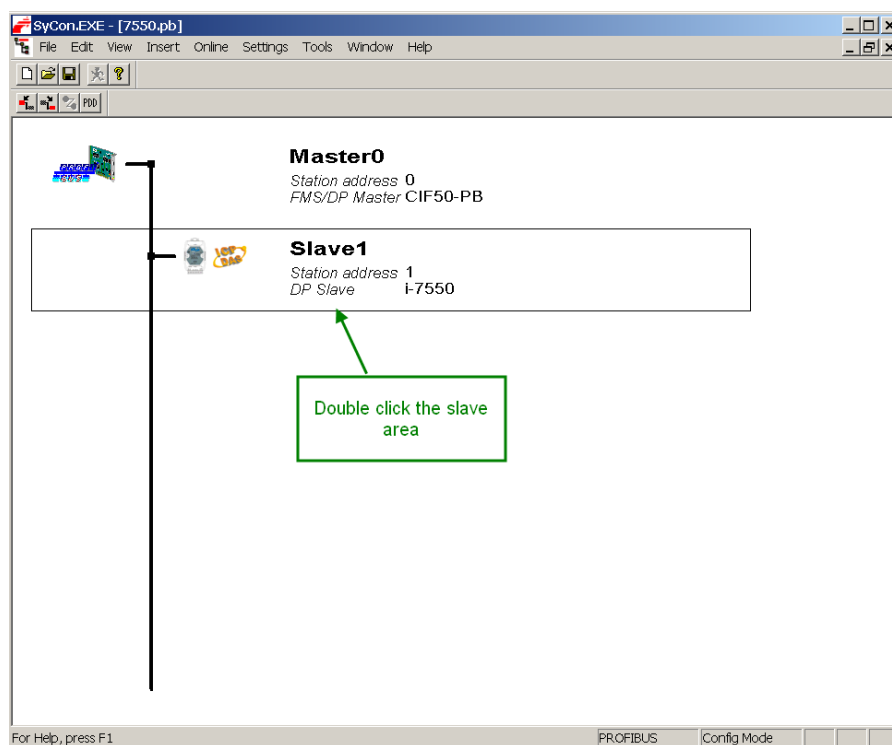

Figure 31: Graphic window
Step 3: Open the “Slave Configuration” window by double clicking the modules icon (*Figure 31*)